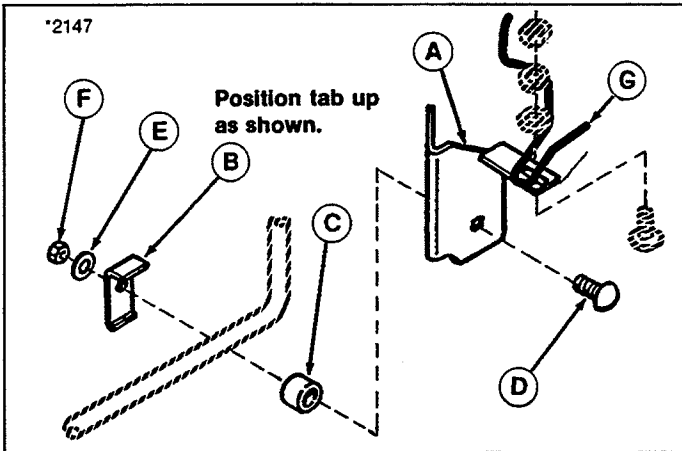

Figure 2.
3. **Mfg. No. 1691867.** See figure 2. Install baffle assy. (A) to the stone guard (underneath mower deck) using U-bracket (B), spacer (C) carriage bolt (D), lockwasher (E) and nut (F). Reuse hardware removed in step 2 to secure tab of baffle assy. (A).
Mfg. No. 1692626. See figure 2. Reuse hardware removed in step 2 to secure tab of baffle assy. (A) and spring latch (G) to mower deck.